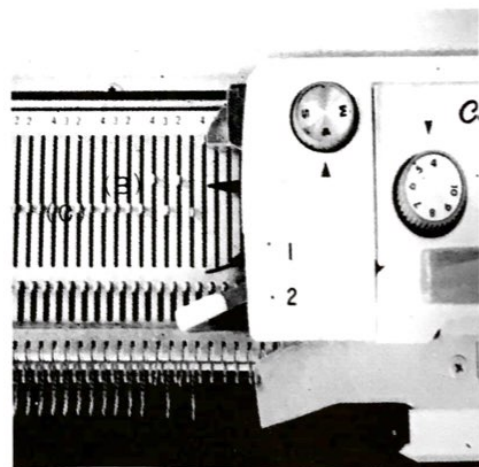

Fig. 11
- (1) Turn the Needle Selection Control Knobs so that 4 is opposite the pointer.
- (2) Bring forward into Working Position (C) and in the centre of the machine some 40 needles.
- (3) Ensure that all the needle butts are in a straight line and you will observe that when in The Working Position (C) the needle butts are forward of the tip of the Needle Guide Cam.
- (4) With the carriage on the right push back into Position (B) the 2nd and 4th needles on the right as shown in Fig. 11. You will see that the butts of the 2 needles in Position (B) are now behind the tip of the Needle Guide Cam.
- (5) When the carriage is moved across the working needles you will note the following—